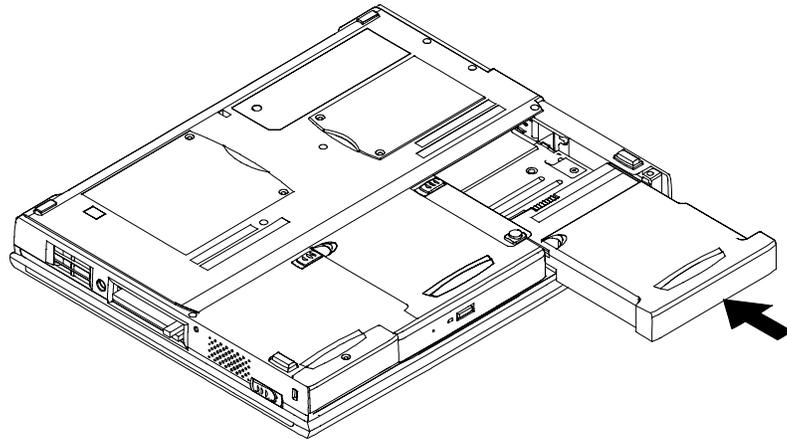

Figure 5-4: Inserting the Battery Pack
To insert the battery pack into the Notebook, refer to **Figure 5-4** and the following instructions:
1. Slide the battery into the battery bay as shown in **Figure 5-4**.